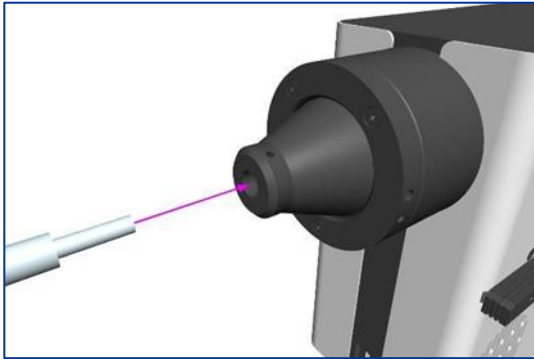

Figure 14
1. Insert a free end of a 3 mm liquid light guide into the Light Source, ensuring that the light guide is fully seated in the Light Source output barrel (Figure 14).